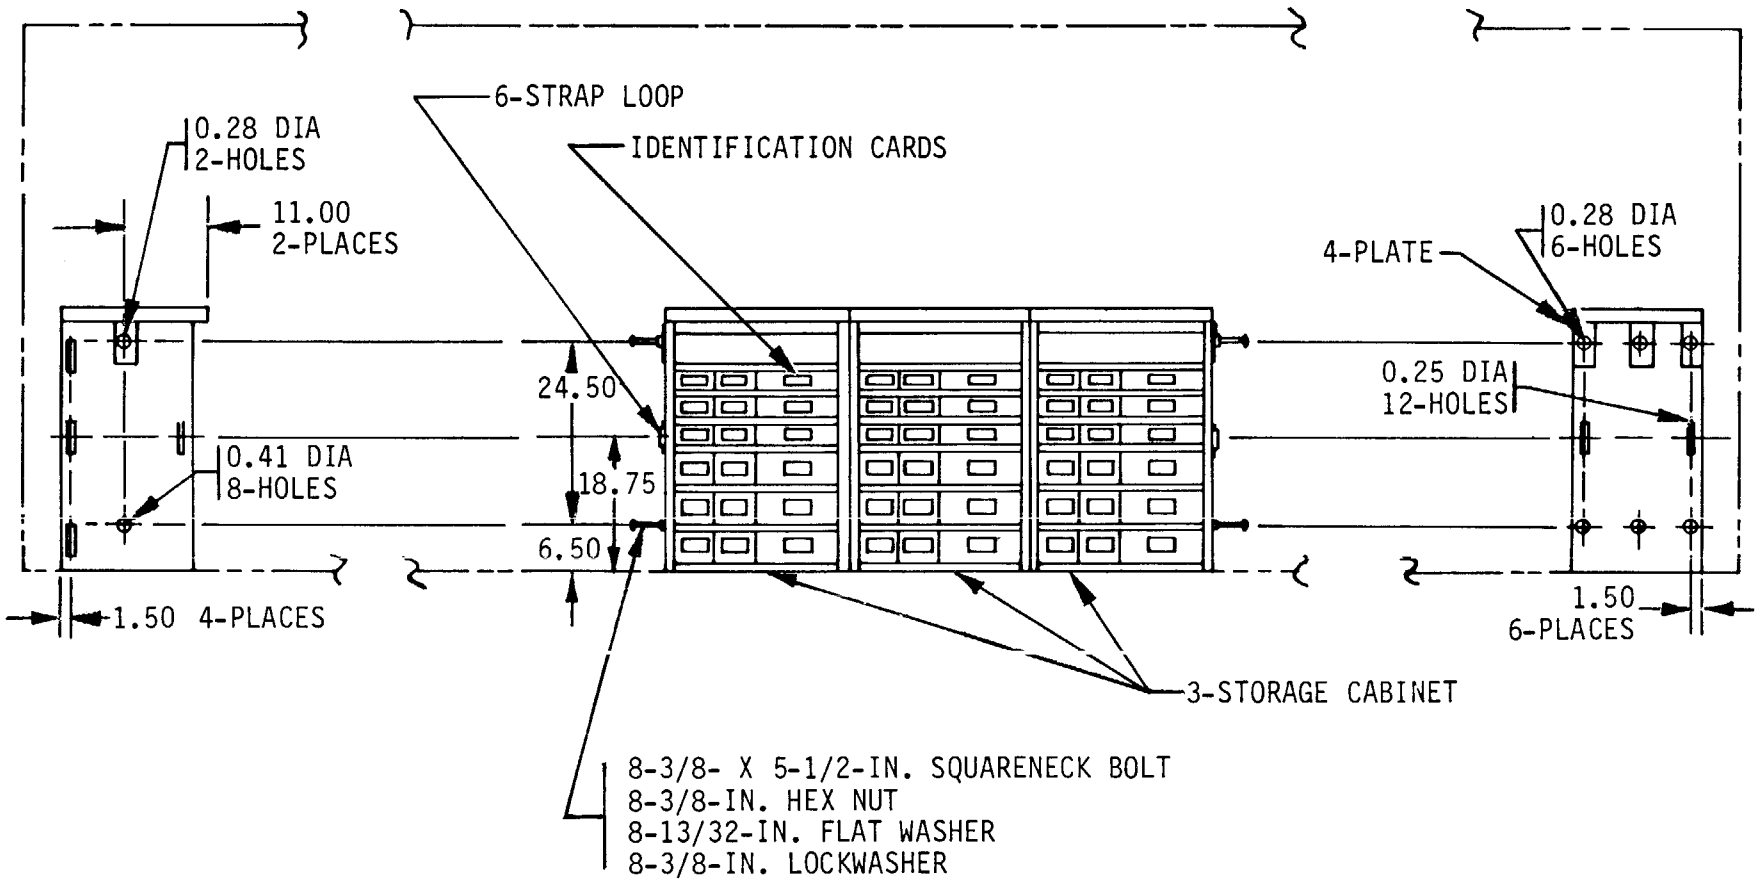
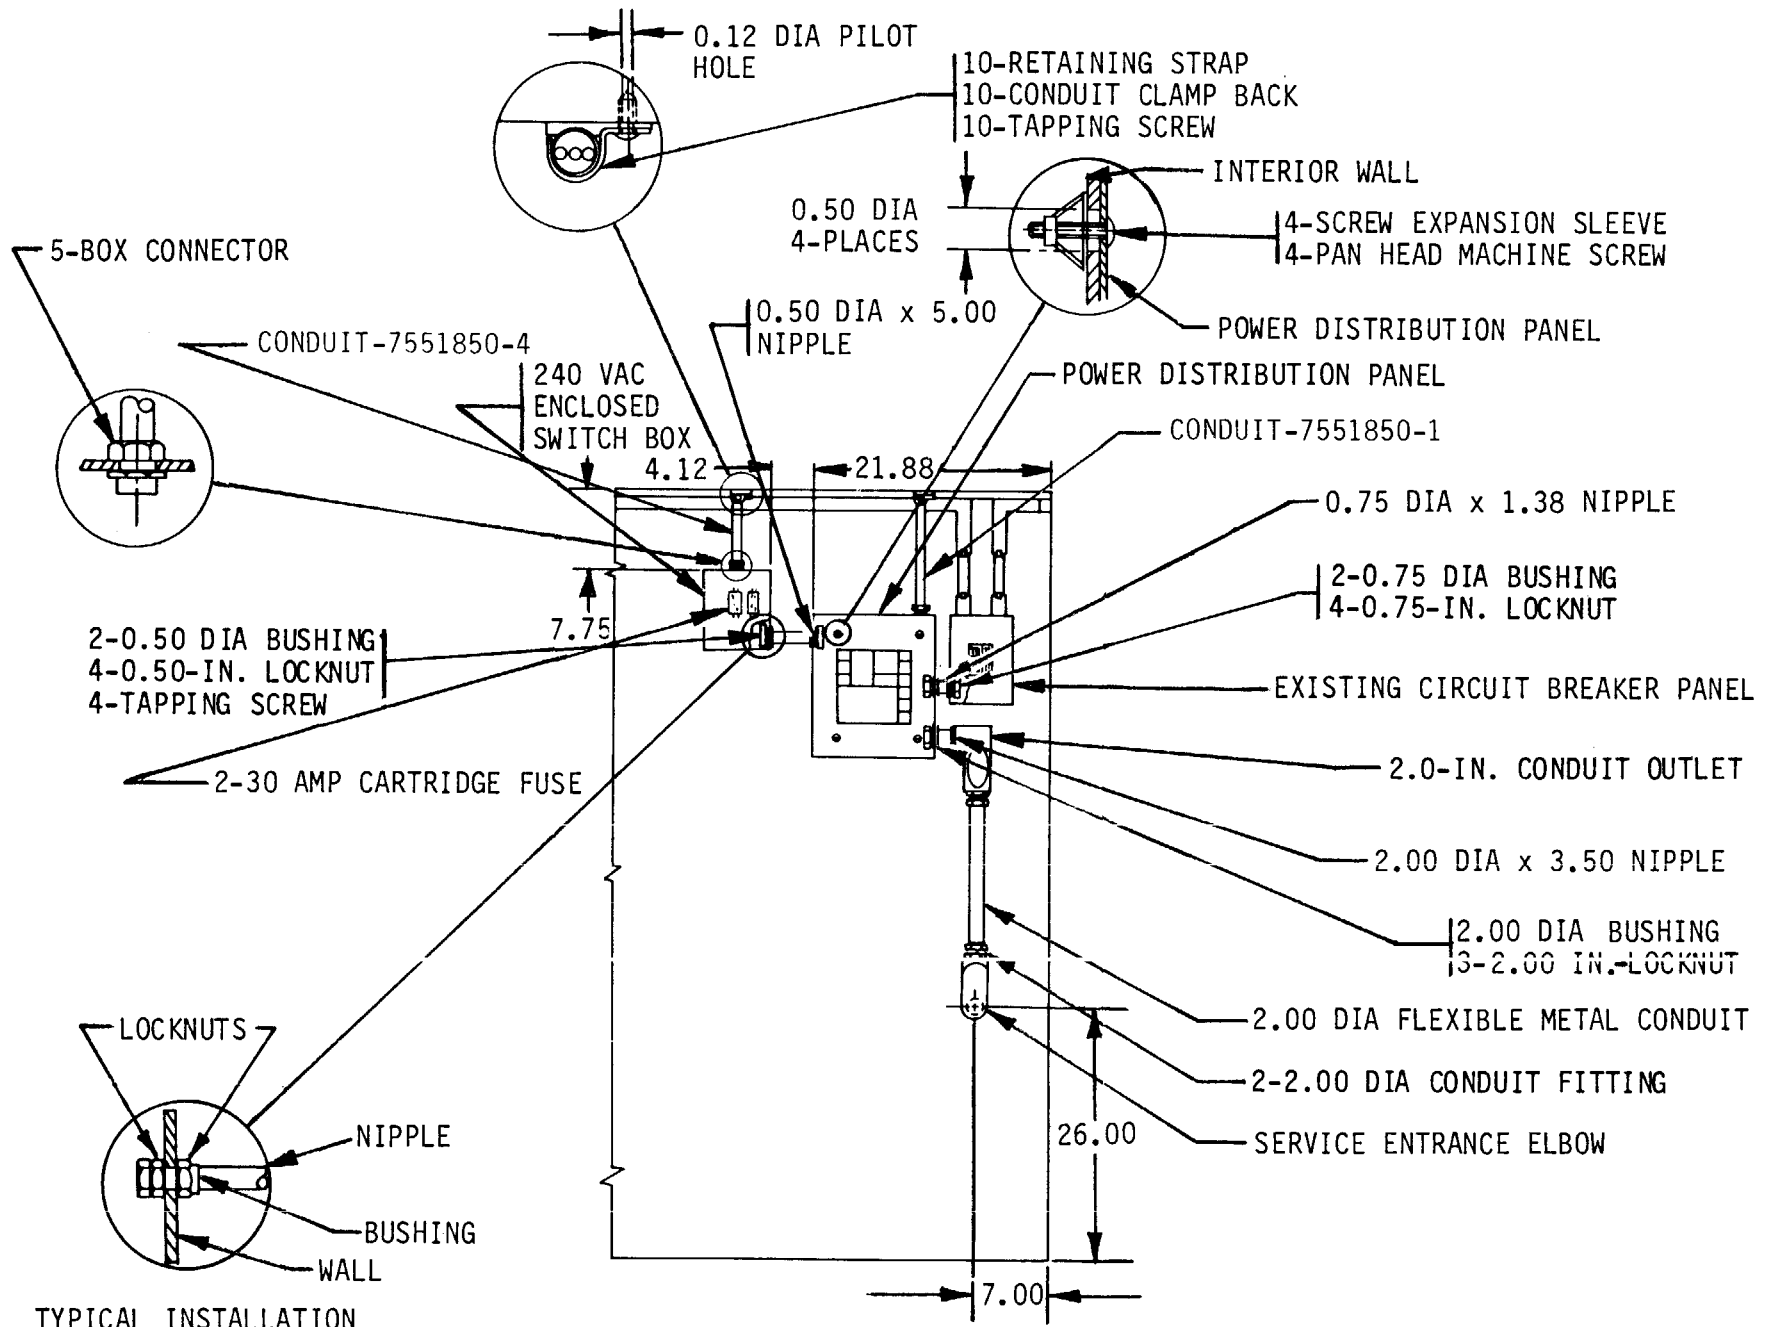

Figure 3. Dimensions for storage cabinet mounted cable holders.
Figure 6. Electrical components to be mounted on front wall.
(14) Position one plate (7551848) on upper storage cabinet wall in accordance with figure 3. Remove two existing screws and nuts from storage cabinet wall that would interfere with installation of the plate. Reposition plate, mark outline and use as a template to drill two 0.28-in. diameter
holes through the storage cabinet wall. Fasten plate to storage cabinet wall using the two screws and nuts that were previously removed. Using the installed plate as a template, drill one 0.41-in. diameter hole through the storage cabinet wall. Also, mark and drill one 0.41-in. diameter hole through the lower storage cabinet wall in accordance with figure 3.
Repeat step 14 three times for the other side of the storage cabinet group. Refer to figure 3.
Repeat step 15 three times for the other side of the storage cabinet group. Refer to figure 3.
(23) Stencil letters A, B, and C 0.50-in. high on front of hinged storage cabinet doors. Center within 0.12-in. using white enamel, color no. 27875 (TT-E-529) in accordance with figure 3.
(24) Apply black numbers, 0.50-in. high, to identification cards in accordance with MIL-STD-130. Place identification cards in holders provided on the storage cabinets in accordance with figure 3.
d. Follow steps (1) thru (21) below for installation of electrical components.
(1) Remove 0.75-in. diameter knockout slug from lower left side wall of existing circuit breaker in accordance with figure 6.
(2) Install 0.75- x 1.38-in. nipple (5975-01-082-6642) in circuit breaker. Secure using two 0.75-in. locknuts (5975-00-100-8767) and a 0.75-in. bushing (5975-00-100-8670) in accordance with figure 6.
(3) Before installation of power distribution panel, remove 0.75-in. diameter knockout slug from middle right side wall, 2.00-in. diameter knockout slug from lower right side wall, and 0.50-in. diameter knockout slug from upper left side wall of power distribution panel. Position the power distribution panel on the semitrailer wall by inserting the nipple, which is attached to the circuit breaker, through the 0.75-in. diameter hole. Using the power distribution panel as a template, mark and drill four 0.50-in. diameter holes through the inner wall of semitrailer. Install four screw expansion sleeves (5340-01-198-2494) in the wall.
Reposition the power distribution panel and secure it to the wall using four pan head machine screws (MS35206-285). Secure the nipple attached to the circuit breaker to the power distribution panel using two 0.75-in. locknuts (5975-00-100-8767) and a 0.75-in. bushing (5975-00-100-8670) in accordance with figure 6.
(4) Mark and drill a 2.00-in. diameter hole through inner wall of semitrailer and a 2.38-in. diameter hole through outer wall of semitrailer in accordance with figures 6 and 7. Secure service entrance elbow (1495) to inner wall of semitrailer using a 2.00- x 2.00 in. conduit nipple (5975-00-849-6702) and a 2.00-in. locknut (5975-00-100-8776).
(6) Install a 2.00- x 4.00-in. nipple (5975-00-057-6657) in the lower right knockout hole of the power distribution panel and secure with two 2.00-in. locknuts (5975-00-100-8776) and a 2.00-in. bushing (5975-00-100-/3709) in accordance with figure 6.
(7) Install one 2.00-in. conduit outlet (5975-00-892-9874) to the 2.00- x 4.00-in. nipple (5975-00-057-6657) and secure with a 2.00-in. locknut (5975-00-100-8776) in accordance with figure 6.
(8) Connect the 2.00-in. conduit outlet to the service entrance elbow with 2.013-in. flexible metal conduit (5975-00-178-1192) length as needed, and two 2.00-in. conduit fittings (5340-01-280-6139) in accordance with figure 6.
(14) Install 0.50- x 5.00-in. nipple (5975-00-1158-2223) in knockout slug hole in upper left side wall of power distribution panel and secure with two 0.50-in. locknuts (5975-00-100-8775) and a 0.50-in. bushing (5975-00-100-8693) in accordance with figure 6.
(15) Remove two 0.50-in. diameter knockout slugs from 60A/240V ac enclosed switch box, one from the middle top wall and one from the lower right side wall. Position 60A/240V ac enclosed switch box on semitrailer wall in accordance with figure 6. Using the 60A/240V ac enclosed switch box as a template, mark and drill four 0.12-in. diameter holes. Secure the 60A/240V ac enclosed switch box to the wall using four #10 x 1-in. tapping screws (MS51861-49). Secure the 60A/240V ac switch box to the power distribution panel with two 0.50-in. locknuts (5975-00-100-8775) and a 0.50-in. bushing (5975-00-100-8693).